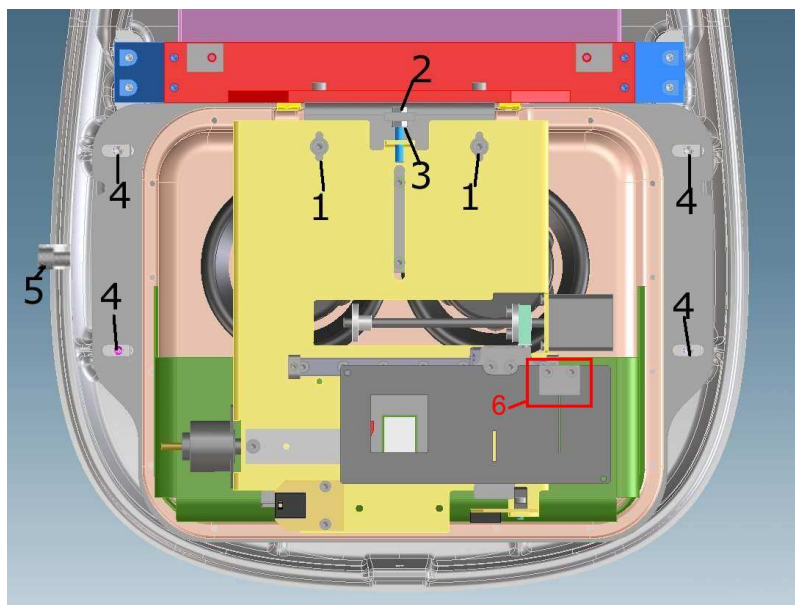

Figure 9-10
- In case the reference pins are aligned and centered on the window, but the X-ray beam is not centered, it is necessary to move the tubehead acting on the screws "4" (Figure 9-10).
- In case the reference pins and the X-ray beam are centered in the window but there is a vertical misalignment of the image (left right side), it is necessary to move the primary collimator acting on the screws **1**, **2** and **3** (Figure 9-10).